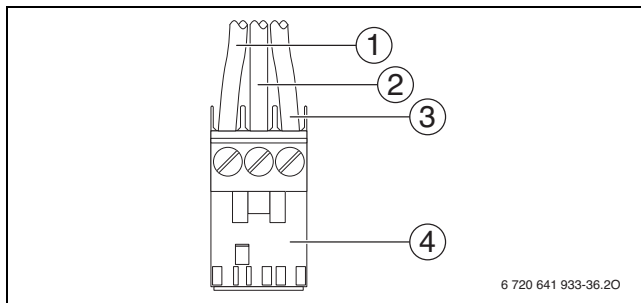

Fig. 51 Attach plug (mains power supply)
- ▶ Connect cable to the **white plug** according to Fig. 51.
- ▶ Connect the lead labelled BOILER GROUND (green) to pin 2 (center, → Fig. 51 [2]) of the white plug in the boiler junction box.